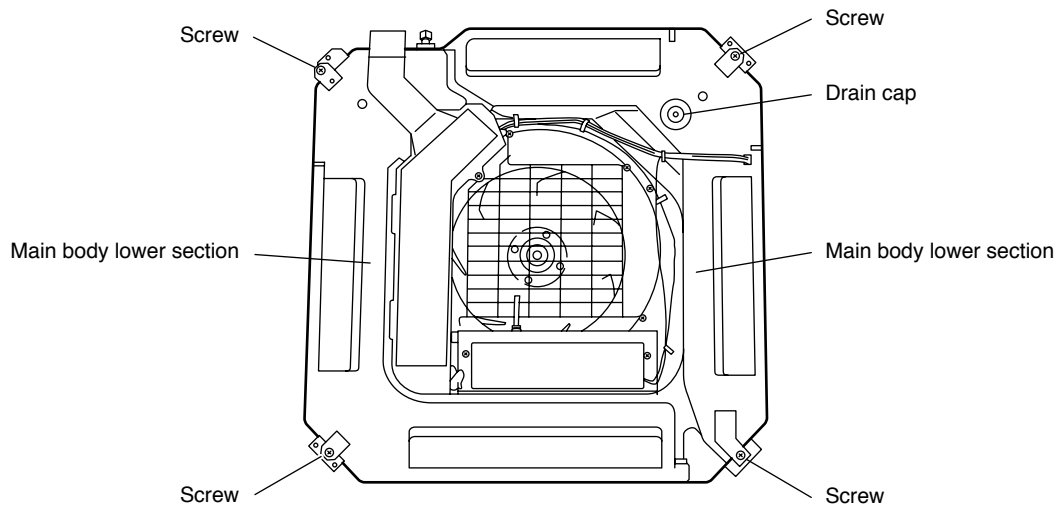

Fig.16
- Put a bucket, etc., under the drain cap and remove the drain cap to drain the water. (Fig. 16)
- (1) Remove the 4 screws. (Fig. 16)